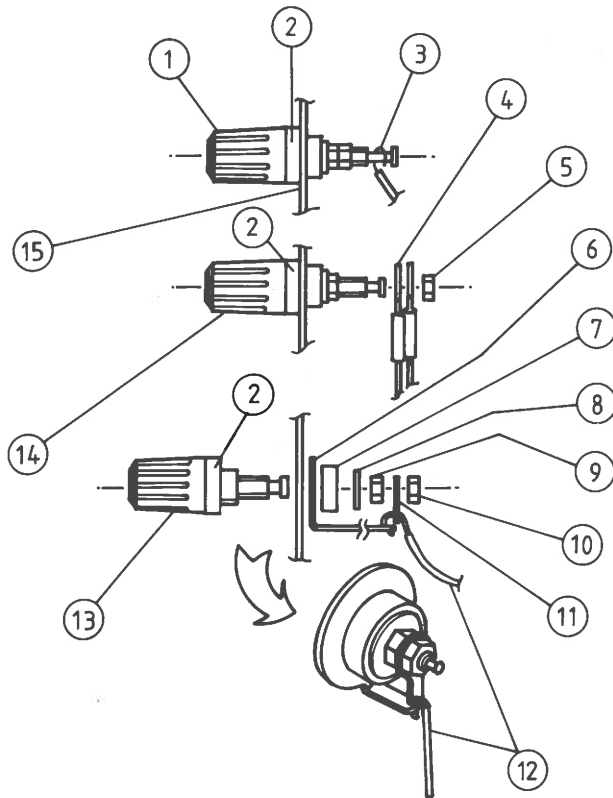
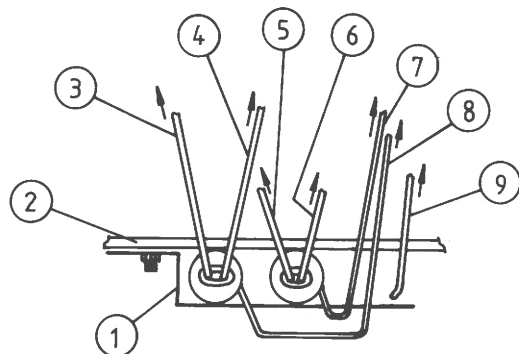

FIG. 3.9 DISMANTLING/REASSEMBLY OF TERMINALS
FIG. 3.10 FRONT PANEL ASSEMBLY TERMINAL WIRING
c. Referring to Fig. 3.9
- 1) Unsolder the wrap joints (3) and remove the red, black, white, blue and brown-coded terminals (1).
- 2) Remove nut (10) from green-coded terminal (13); ease soldertag (11) from the terminal taking care not to strain the connection with wire (12) and special solder tag (6); remove nut (9) washer (8) and spacer (7); removal special solder tag (6), together with solder tag (11)
Reverse the procedure of para. 3.15, referring to Fig. 3.10 for terminal wiring identities, and to Fig. 3.9 for terminal connection methods.